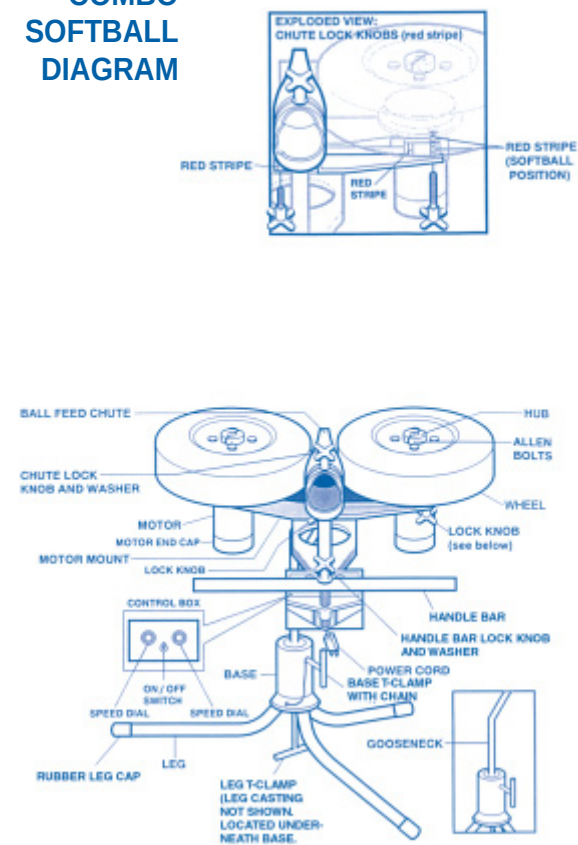

Figure 4
3. Place the curved ends of the three short legs in sockets so that the distance between the legs is the same (see Figure 4).